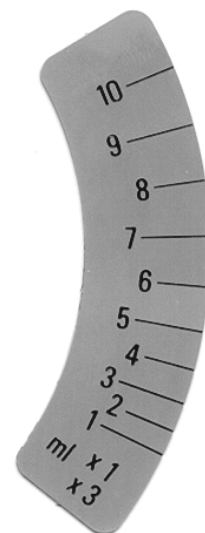

Figure 4 “Stroke Volume Scale”
Volume is clearly indicated by a pointer on a stationary dial (15): see picture and Figure 4 “Stroke Volume Scale”.